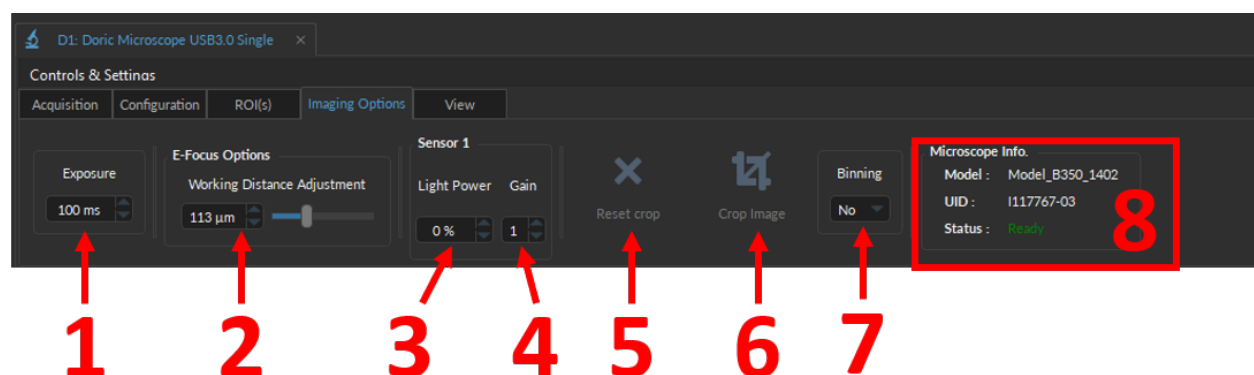

Figure 5.16: Microscope Imaging Options Tab
1. The **Exposure** box (Fig. 5.16) sets the exposure time of the sensor. The time can be set between 22 and 1000 ms.
5. The **Reset crop** button (Fig. 5.16) resets the cropped image to its original state. The change will only appear when a new **Capture** sequence is activated.
6. The **Crop Image** button (Fig. 5.16) allows a square to be drawn onto the image. When a new **Capture** sequence is activated, only the cropped region will be captured.
7. The **Binning** drop-down list (Fig. 5.16) allows the binning of pixels. This reduces the number of pixels for smaller save file sizes.